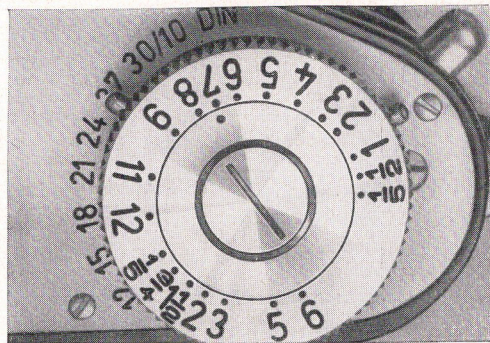

Fig. 12
These two settings (B and T) are used for long time exposures over 12 seconds, because the time setting work of the EXAKTA VX allows for exposure times up to 12 seconds (see below!). Longer exposure times than 12 sec. are controled by counting the seconds or with a watch. In this case you must definitely use a tripod (camera retaining screw [42] on camera base) or place the camera on a stable support (table, wall, etc.), whereas fast exposures of $\frac{1}{25}$ down to $\frac{1}{1000}$ sec. are possible as „hand-held“ shots. With the slow speed knob (17) it is possible to set exposure times longer than $\frac{1}{25}$ sec. (17) (Fig. 12). The fractions of seconds (e. g. $\frac{1}{5}$ sec.) are indicated on the slow speed knob (17) as fractional numbers, while all the whole numbers mean full seconds (e. g. 1 = 1 sec., 2 = 2 sec. etc.). The black figures are for exposures immediately after releasing. The red marks, however, indicate that the shutter opens about 13 seconds after releasing, the self-timer permitting yourself to step in the picture.